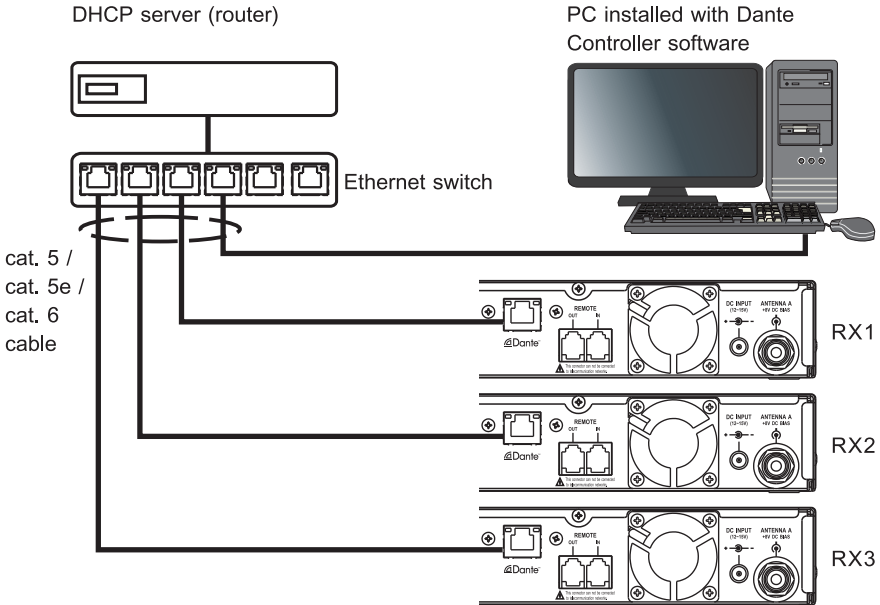

Fig. 22
1. Dante Network. Fig. 22:
- (A) Connect Dante RJ45 port on the device to the Ethernet switch via cat. 5 / cat. 5e or cat. 6 cables to construct Dante Network.
- (B) The Ethernet switch needs to be connected with a DHCP server (e.g. router) to provide DHCP function.